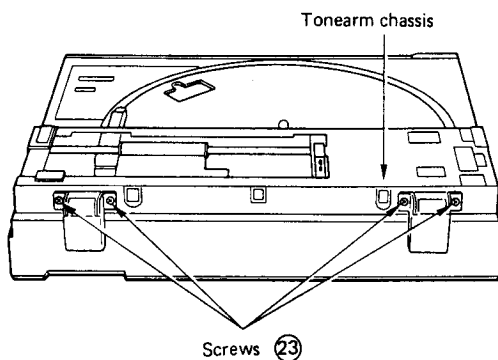

Fig. 18
- 2) As shown in Fig. 18, the tonearm chassis can be removed by first removing the four screws (23).